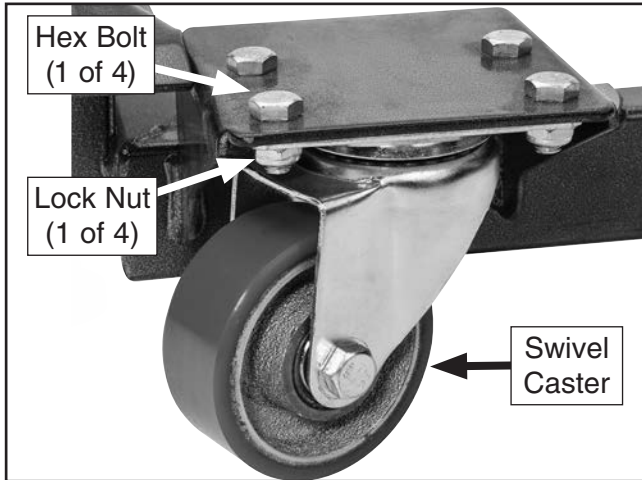

Figure 16. Swivel caster attached to corner bracket.
- Attach swivel casters to each rear bracket with (4) M8-1.25 x 16 hex bolts and (4) M8-1.25 lock nuts (see **Figure 16**).
- Attach swivel casters to each front bracket with (4) M8-1.25 x 16 hex bolts and (4) M8-1.25 lock nuts (see **Figure 16**).